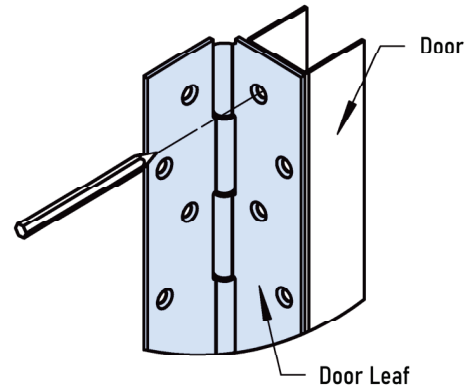

Fig. 3
A. Attaching hinge to door (Fig.3)